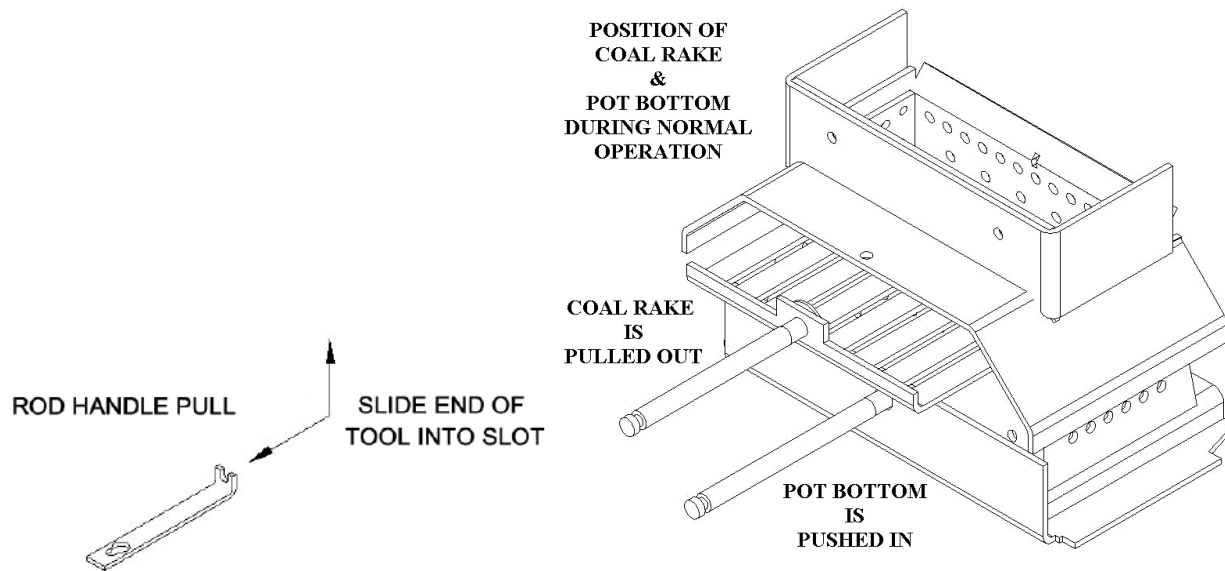

Figure 23
Step 5 - Dropping the coals back into the burn pot. At this time pull the coal rake back out of the burn pot to drop the coals in the pot. See position of Coal Rake & Pot Bottom in figure 23 on page 41 for normal operation.
2. Cleaning the Heat exchange tubes. Now you can pull the tube scraper back and forth a couple of times to keep the tubes clean. If the Tube Scraper feels sticky and difficult to move, check for the presence of creosote on the tubes. If creosote is present a damper adjustment may be needed or the Multi-Fuel Insert has become plugged and needs a thorough cleaning. Call Dealer for assistance. To pull the tube scraper back and forth use the Rod Handle tool shown in Fig. 23 on page 41.